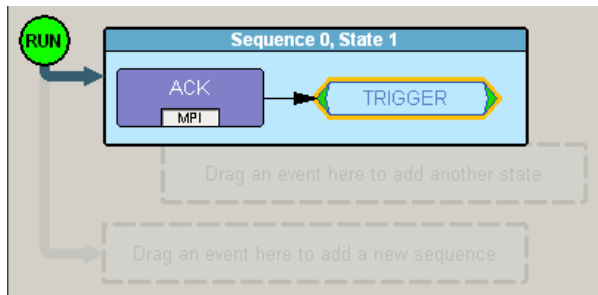

Figure 12.29 Example 1: Complete Rule
Figure 12.29 shows the completed event-action sequence.
- Step 1** From example 1, the ACK is the first event in the state (Figure 12.29).